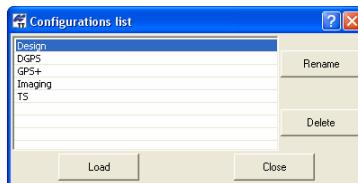

Figure 2-9. Configurations List
- Clicking the List configuration button displays the ***Configuration list*** dialog box (Figure 2-9). The default configurations differ in coordinate systems and precisions for Points, GPS Obs, TS Obs, DL Obs, and Loop Closure.